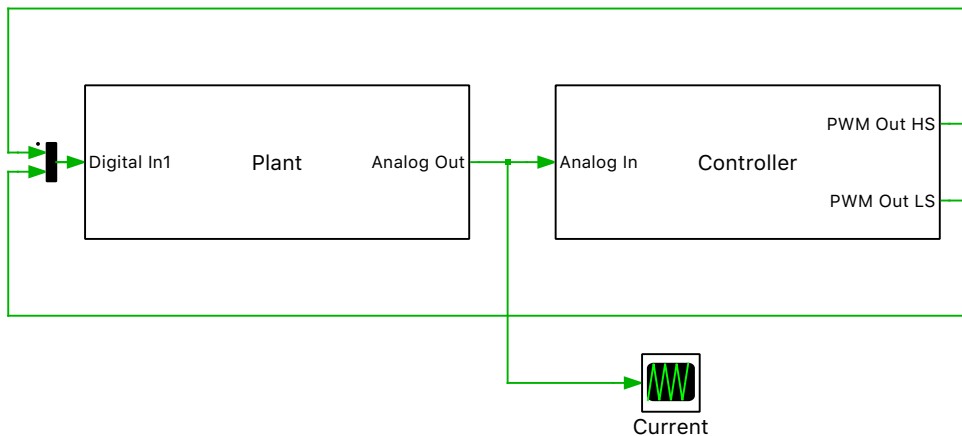

Figure 2: Overview of top-level schematic after step 4
- 3 Use the “Target Import” feature of the RT Box library blocks to create an online and offline version of the systems within the same PLECS model. That is, place the existing RT Box library components into the corresponding “Plant” or “Controller” subsystem and then connect the control signals between the subsystems in the top-level schematic. Refer to Figure 2 for the arrangement of the top-level schematic (see also the tutorial “Introduction to the RT Box using PLECS”).